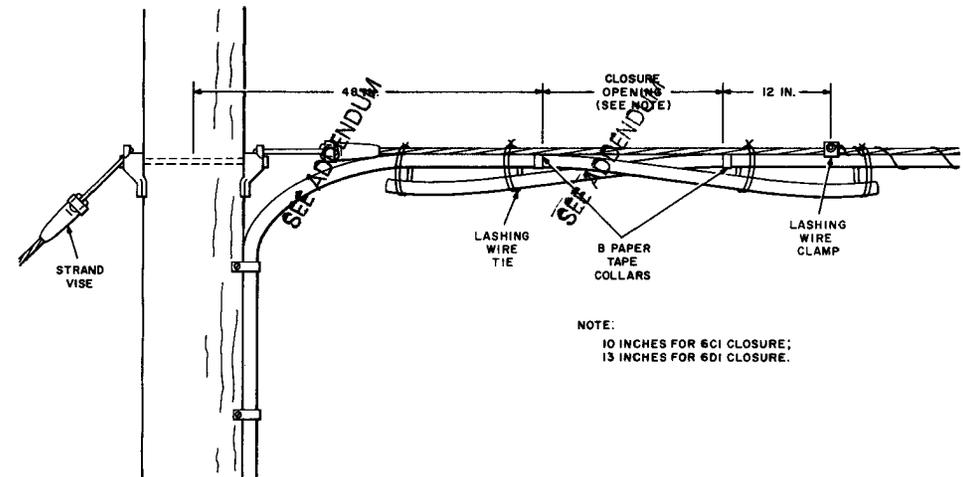

Fig. 4—Location of Closure at Dead-End Pole
3.02 At the junction of underground and aerial PIC cables, locate the closure on the right side of the pole as shown in Fig. 4.
3.05 After determining the closure location, cut and secure lashing wire to the strand with lashing wire clamps, as shown in Fig. 4 and 5.
4.02 Overlap the ends of the cables and place B paper tape markers as shown in Fig. 4 or 5. (See Section 627-240-212 for details on dead ending strand.)